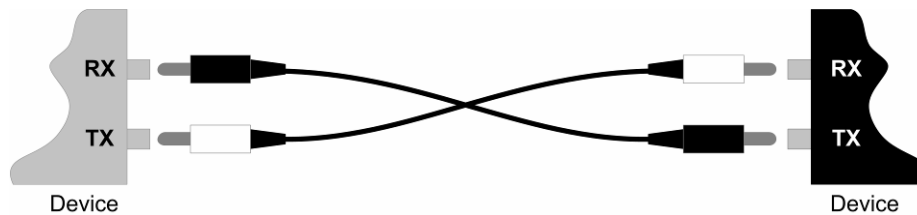

Figure 15: Fiber Cable Connections
3.	Connect the fiber cable as shown in Figure 15.